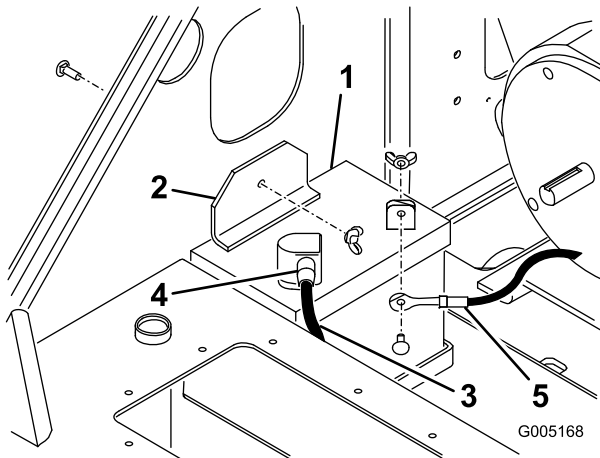

Figure 27
3. Remove the wing nut and bolt securing the battery clamp and strip (under the clamp) and remove the clamp and strip (Figure 27).
positive (+) battery post (Figure 27). Slide the rubber cover over the battery post.
11. Using the bolt and wing nut supplied with the battery, connect the negative (black) cable to the negative (-) battery post (Figure 27).
8. Install the battery into the chassis (Figure 27).
9. Secure the battery in the chassis (Figure 27).